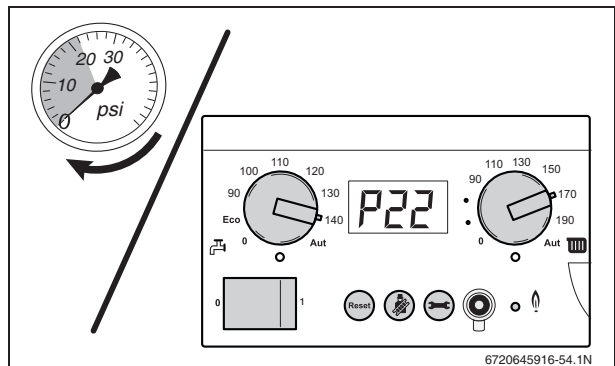

Fig. 54 Reading the pressure gauge
- Read the pressure (PSI) from the pressure gauge on the pump group or on the control panel of the BC10 (fig. 54)